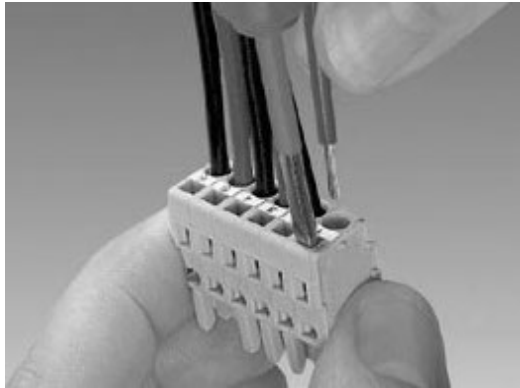

Figure 1 Inserting Wire in Cage Clamp Type Connector
Strip insulation from the end of the wire as indicated in Figure 1.
1. Place a flat bladed screwdriver in the rectangular slot in the connector next to the wire receptor (see Figure 1)